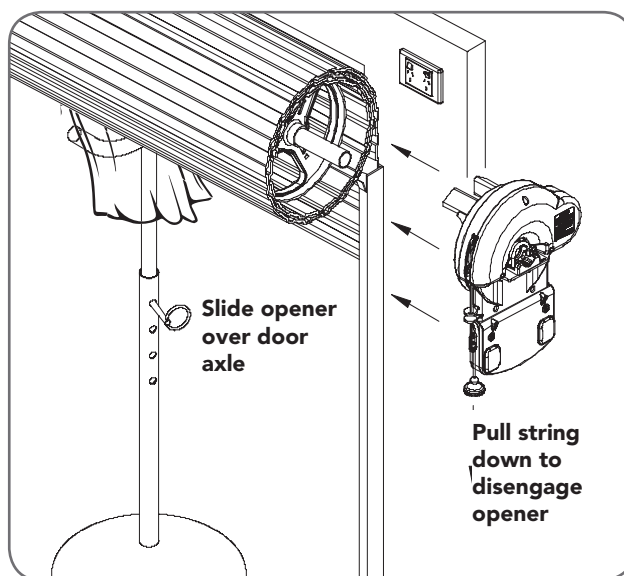

Fig. 6.5.2
- Slide the opener over the door axle and into the drum of the door as shown in Fig 6.5.2.